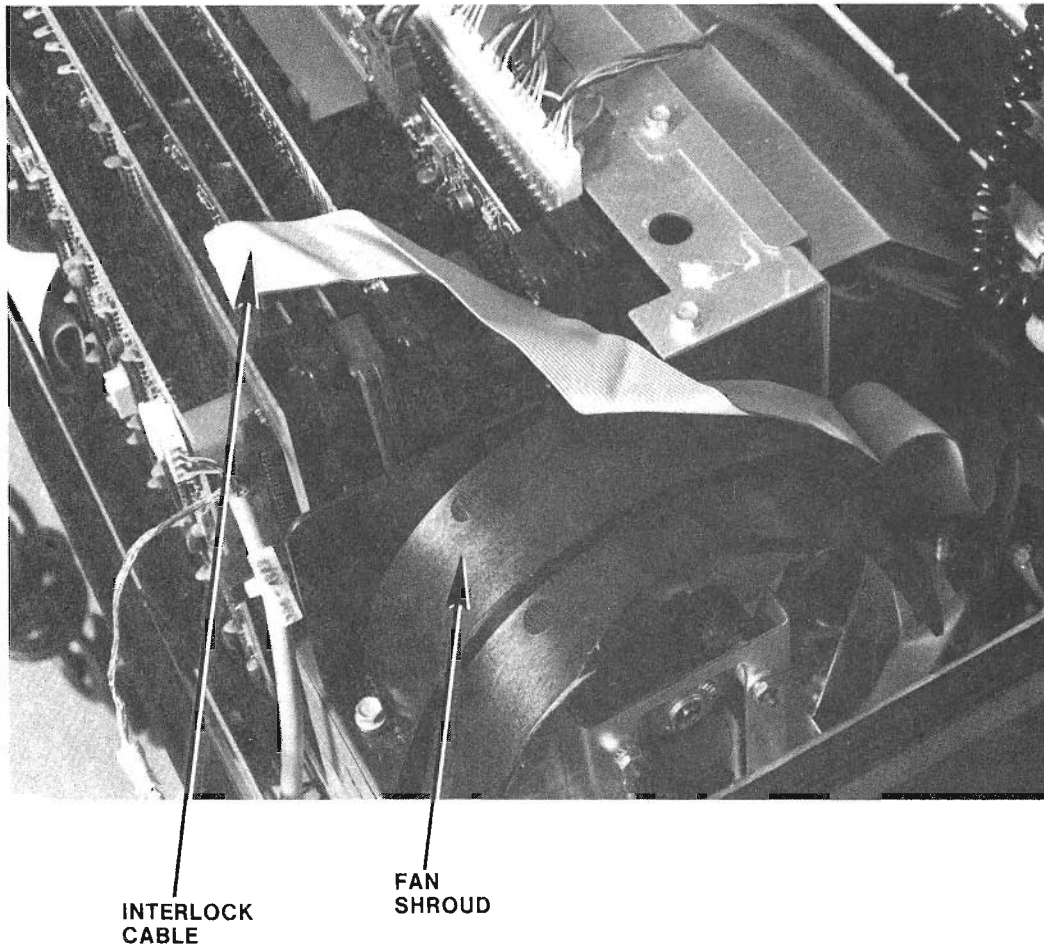

FIGURE 20
- b. Reroute the Interlock cable as shown in figure 20.